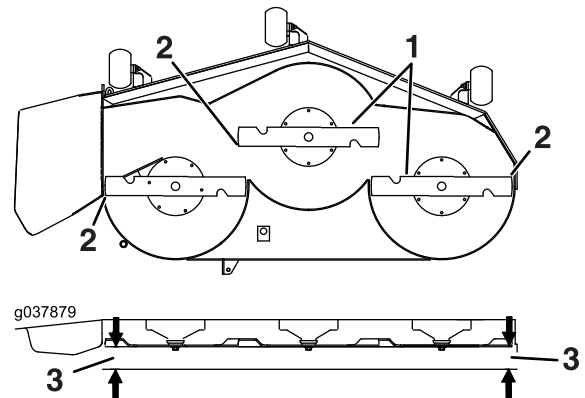

Figure 99
6. Measure between the blade tip and the flat surface (Figure 99). If both measurements are not within 5 mm (3/16 inch), adjust the leveling; continue with this procedure.
14. Carefully rotate the blades side to side (Figure 99).